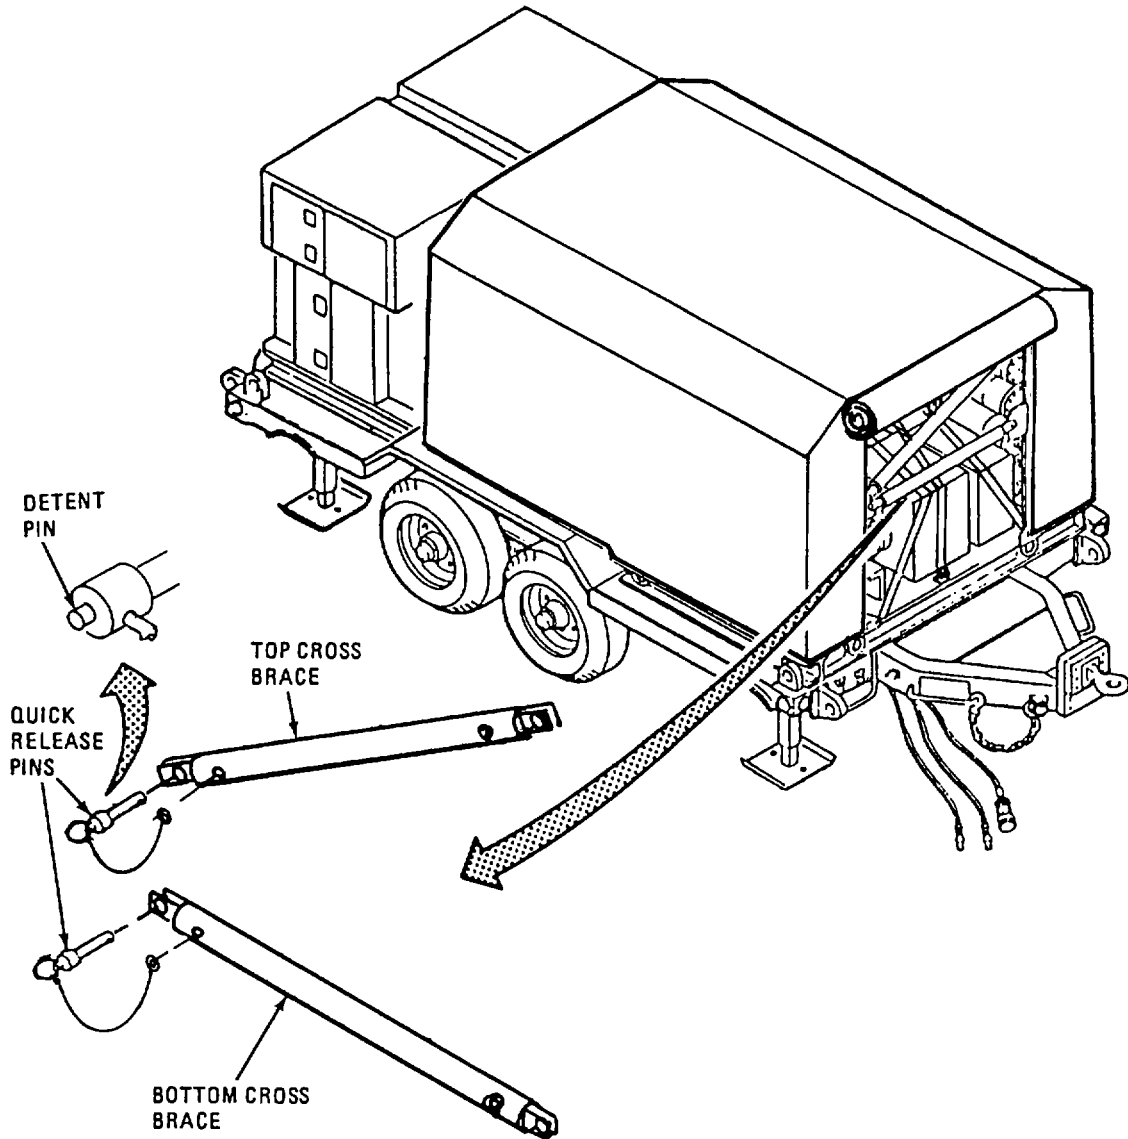

Figure 2-21. Cross Braces.
- b. Remove Cross Braces. Refer to figure 2-21.
- (1) While pushing in on detent pin with thumb, pull quick release pin from both ends of top cross brace. Remove top cross brace from frame.
- (2) While pushing in on detent pin with thumb, pull quick release pins from both ends of bottom cross brace. Remove bottom cross brace from frame.
- (3) Stow both cross braces on top of canvas cover.